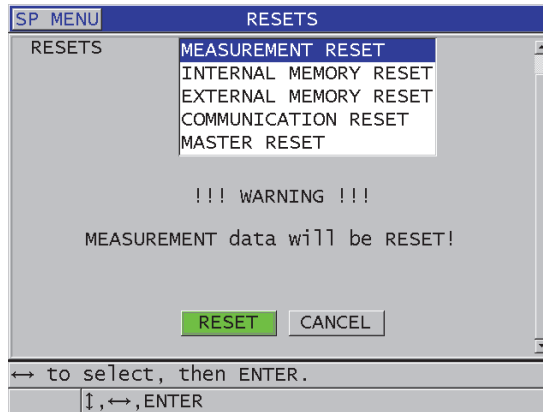

Figure 15-1 Activating a reset function
3. In the **RESETS** screen (see Figure 15-1 on page 287):